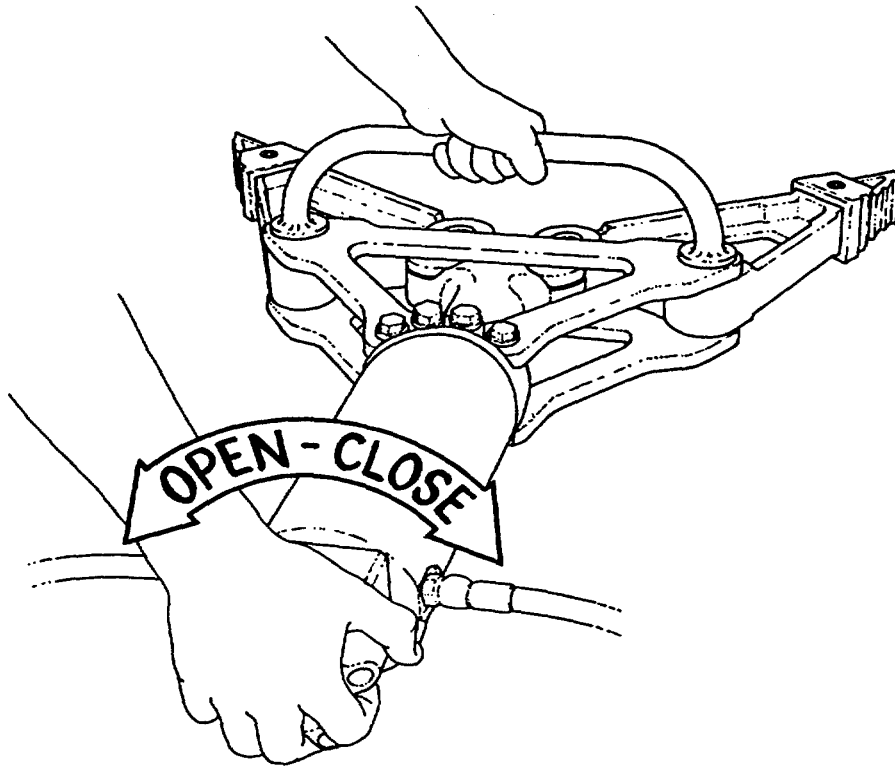

Figure 2-6.
- ! WHEN USING THE SPREADER TOOL, KEEP ONE HAND ON THE HANDLE BAR AND THE OTHER ON THE VALVE CONTROL HANDLE (FIGURE 2-6). NEVER PUT YOURSELF OR ANY PERSONNEL BETWEEN THE SPREADER UNIT AND THE OBJECT BEING OPENED, BODILY INJURY MAY OCCUR. USE EXTREME CAUTION WHEN REMOVING A DOOR PANEL FROM THE HINGED AREA, THE DOOR PANEL MAY BUCK.
- 2.2.3. Prior to spreading, close the jaw until the tips are touching. Push the SPREADER TOOL into the area that needs to be opened, thru the CONTROL VALVE HANDLE to the jaw "OPEN" position. (Figure 2-6). Keep opening until the jaw tips are fully open, 26 inches, then close down and start the procedure again. Once desired opening position is obtained, the CONTROL VALVE does not have to be held in the open position. When the CONTROL VALVE is in the neutral position, the jaws will remain at the desired setting.